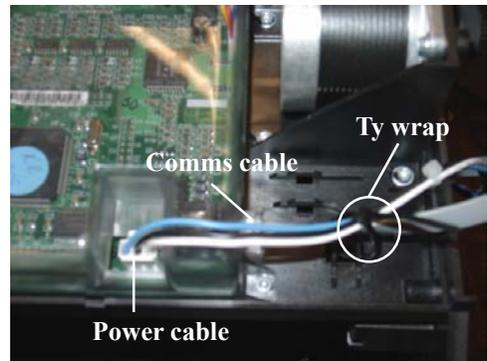

Figure 13. Route/connect cables.
4. Route the dispenser power and Comms cable through the Ty wrap provided and connect cables to the dispenser (Figure 13). Tighten Ty wrap to secure.